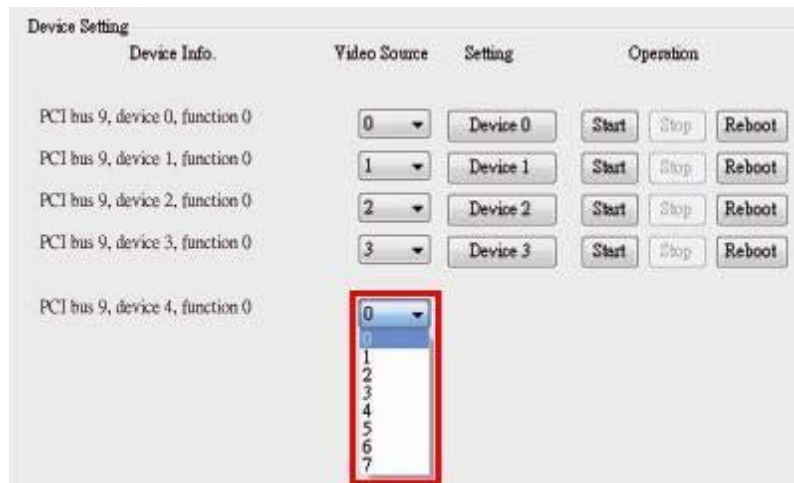

Figure 4-9: Select Transmitter Device for HDC-304E
**Step 4:** **This step is only required for the HDC-302E.** Select the transmitter bus (0 or 1) (Figure 4-9). For example, to view the video input source 1 on HDMI display device, select the transmitter bus 0. Please refer to the following table:
**Step 5:** This step is only required for the HDC-304E. Select the transmitter bus from 0 to 3 (Figure 4-9). For example, to view the video input source 1 on HDMI display device, select the transmitter bus 0. Please refer to the following table: